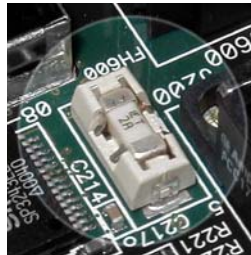

Figure 6-3.
4. Locate the fuse and fuse holder on the transceiver’s PC board. See Figure 6-3 for details.